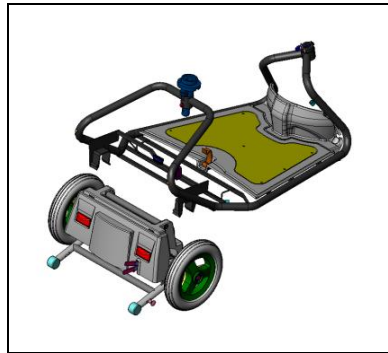

figure 3
- c. Lift the frame and install the frame bracket onto to power unit square connecting bracket. Make sure the frame is down to the end of the bracket. (See **figure 3**)